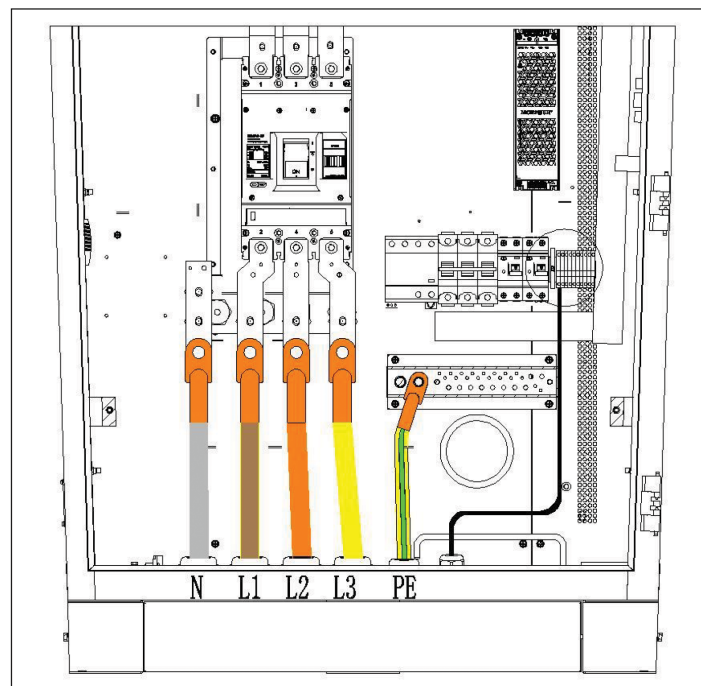

Figure 3.4.4
2. Fix the cable lug on the copper bar with the screw of M(25/64)/M(5/16) inch(M10/M8), the torque is 221-265.2 in-lbs(25-30N·m), and the force is calibrated, as shown in Figure 3.4.4.